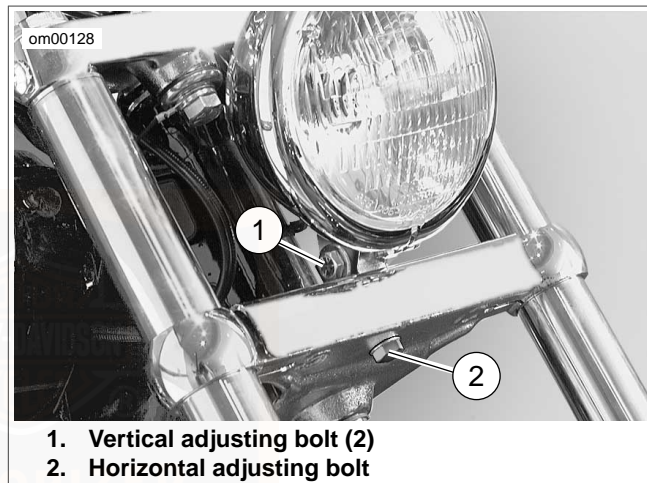

Figure 69. Headlamp Adjustment: FLSTC, FLSTF, FXSTB, FXST
1. See Figure 69. Loosen horizontal adjusting bolt (2) to adjust headlamp beam side to side.
3. Loosen vertical adjusting bolt (1) to adjust headlamp up or down.